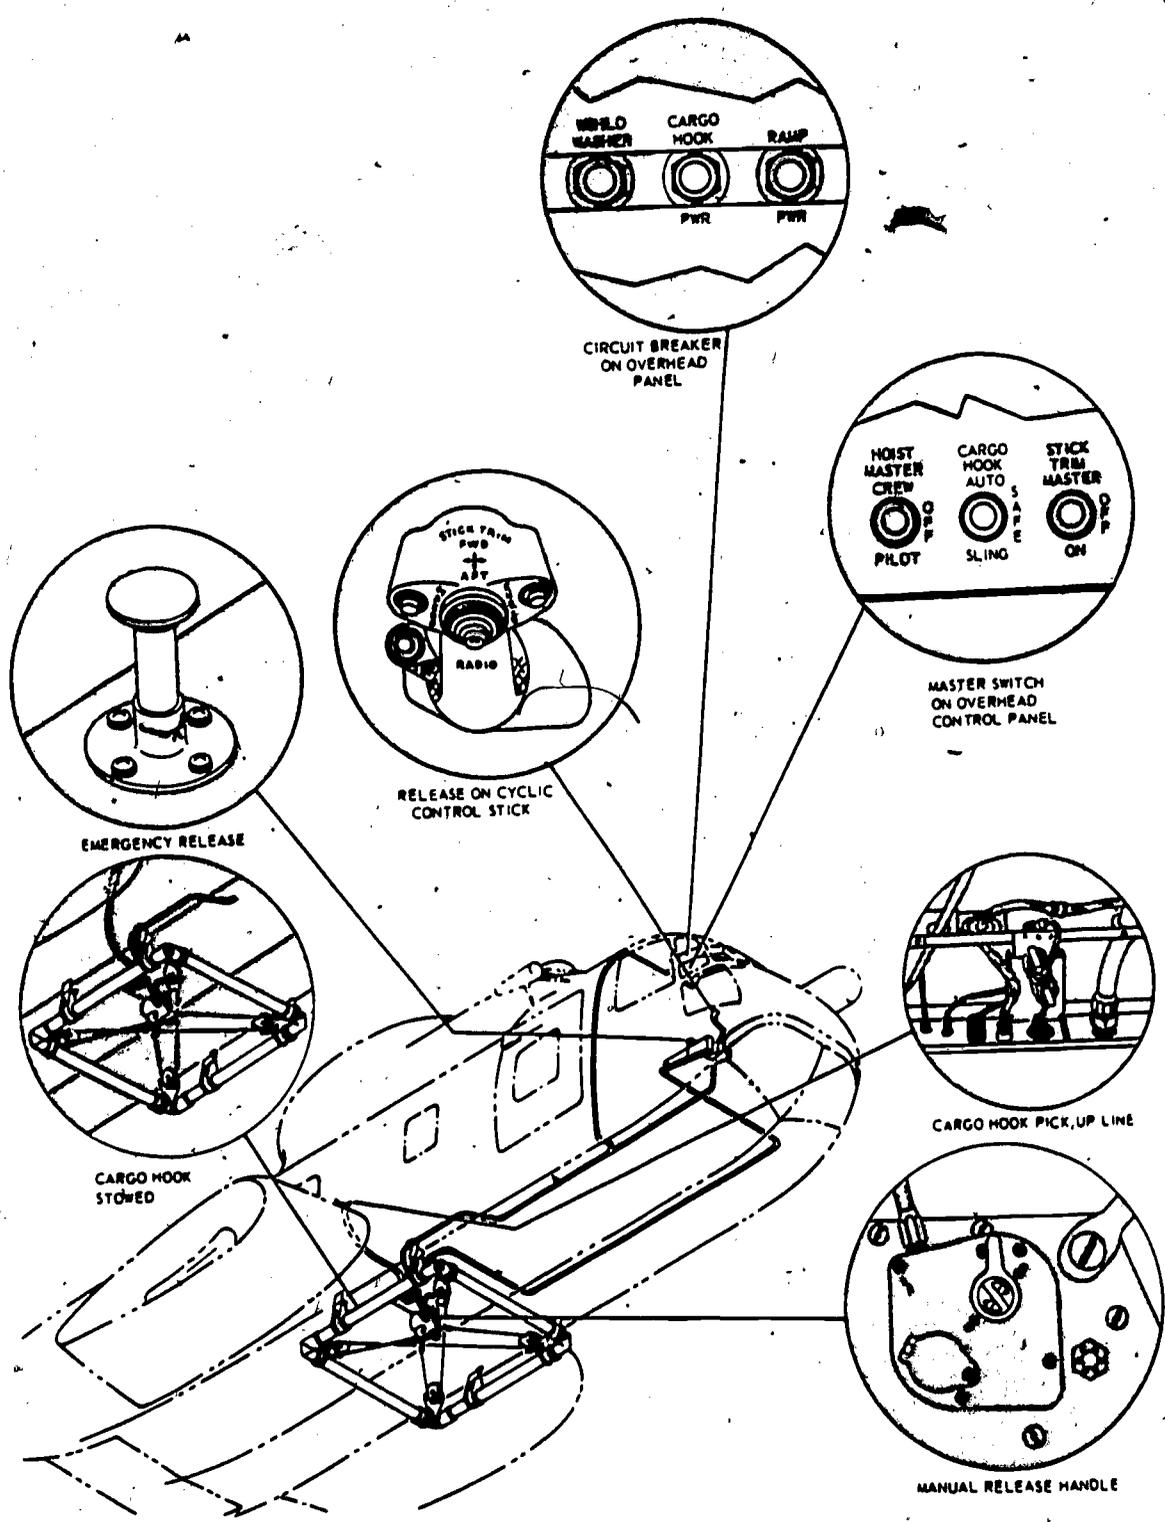

Figure 31. - Cargo sling system, low response.
The low response external cargo sling (figure 31) permits carrying loads up to 8,000 pounds beneath the helicopter. The sling is made up of universal sling fittings, cables, cargo hook, pulleys, and a suspension frame. The sling is attached to four hard points on the bottom of the helicopter by four universal sling fittings. The fittings, in turn, are attached to a suspension frame, which contains a pulley in each corner. Two cables are threaded through the pulleys which support the cargo hook. Each cable picks up a suspension ring on the cargo hook, is threaded through a pulley, passed diagonally below the tub and threaded through the opposite pulley, and then attached to the opposite suspension ring. This suspension permits the hook to swing independently of the helicopter in any direction. The path of the hook during its swing is elliptical; therefore, the line of reaction of the load is perpendicular to a tangent on the elliptical path. This line of reaction passes through the helicopter between the floor and the center of gravity and eliminates undesirable aircraft responses.
A switch, marked CARGO HOOK, located on the overhead switch panel (figure 31) controls the operation of the cargo sling hook. The switch has marked positions AUTO, SAFE, and SLING, and should be kept in the SAFE position during flight to prevent accidental discharge of the cargo by gusts or conditions that would lighten the load force. The SLING position energizes the thumb switches on the pilot's and copilot's cyclic stick grips, marked CARGO. This enables the pilot or copilot to electrically release the load on the sling. The cargo sling master switch should be in the SLING position during cargo hookups and until a safe altitude and airspeed are reached, to allow for quick release of the external load in the event of an emergency. The AUTO position energizes the cargo release switches and also a touchdown switch on the cargo hook. The touchdown switch, activated by load tensions greater than 125 ± 10 pounds, will automatically release the load when the load touches the ground and the load tension on the hook becomes less than 100 pounds. After an AUTO cargo release, the CARGO HOOK OPEN light will blink continuously until the switch is positioned to SAFE. Although the automatic touchdown release is set to actuate at 100 pounds or less, it should not be used with loads less than 200 pounds. The master switch should always be returned to the SAFE position and sling stowed after the load has been released. The master switch receives electrical power from the DC primary bus through a circuit breaker, marked CARGO HOOK PWR, located on the overhead circuit breaker panel.
- c. Cargo hook switch - SLING. (See figure 31.)